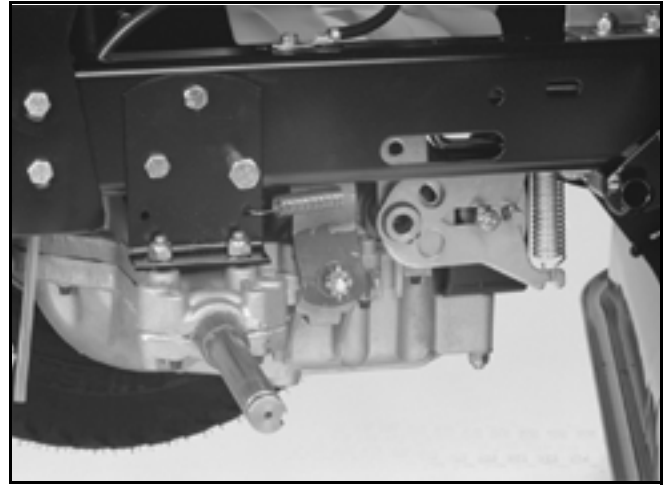

Figure 105 4017-09
1. Check to see if the brake lever returns to the "OFF" position when the pedal is released (Figure 105).